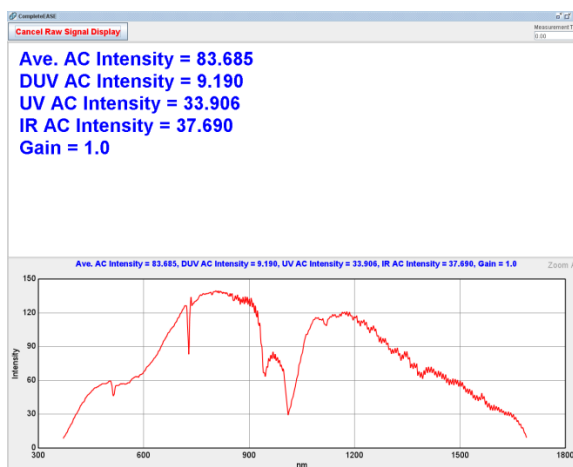
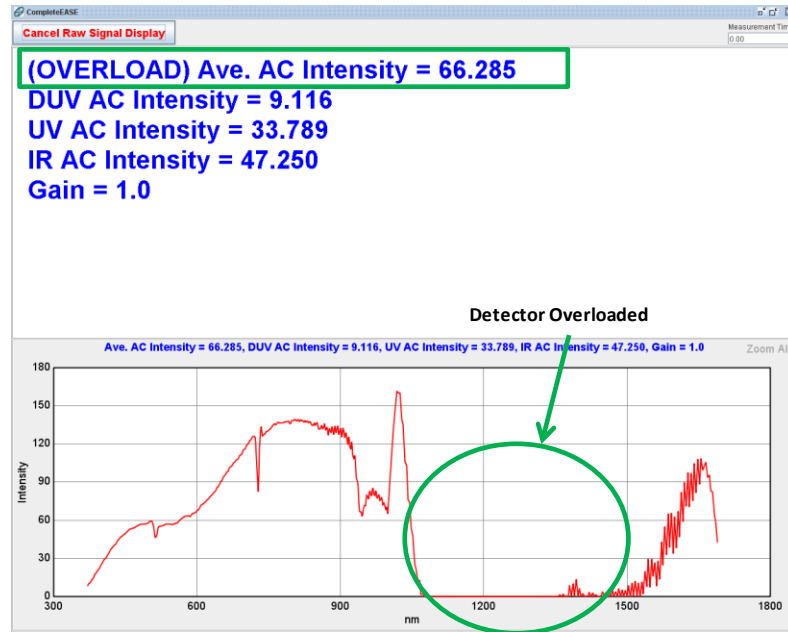

Figure 4-36. Raw Signal Display screen.
Figure 4-37. Optional NIR spectrometer overloaded on M-2000 system.
2. This will display a plot of the magnitude of the signal from all detector channels, as shown in Figure 4-36. The intensities below are typical for an M-2000 in the straight-through configuration.
4. If part of the UV-VIS signal, optional NIR, or both is "Overloading" as shown in Figure 4-37, the iris(es) or filter position on the Receiver unit may need to be closed down until the signal is no longer "Overloaded" as shown in Figure 4-36. If the system is equipped with the Source ND filter